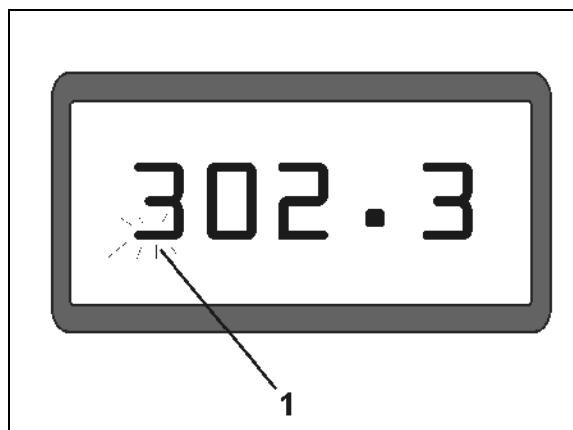

Fig. 2
- **Display (Fig. 2/1).**
Lower bar (Fig. 2/1) flicks during operation: